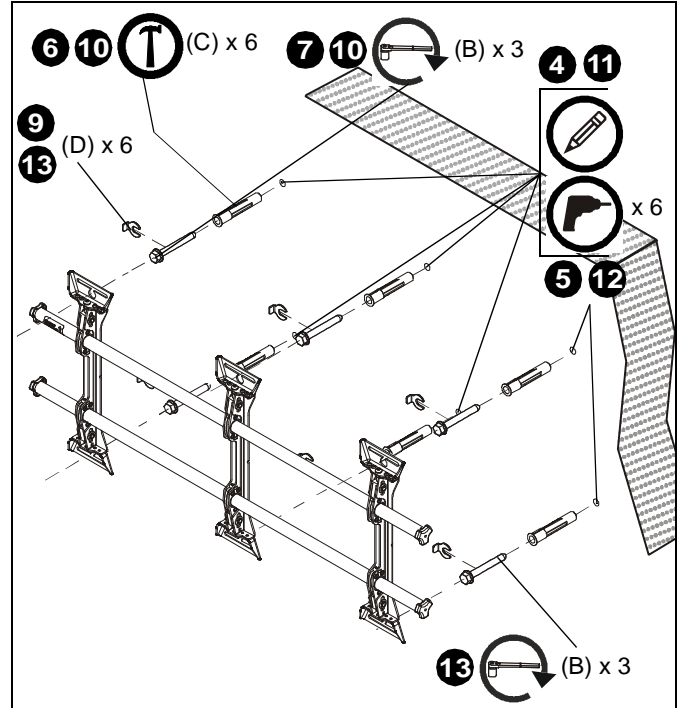

Figure 6
2. Line up the notches on mount with center of screen marking to determine vertical center. (See Figure 6)
3. Measure up 8" (203.2mm) from the center point to mark location of the upper mounting slots. (See Figure 6)
4. Using a level, mark the wall through both upper mounting slots. (See Figure 6)
5. Drill one 3/8" x 3-1/2" (9.5mm x 88.9mm) pilot hole at each marking. (See Figure 6)
6. Install an anchor (C) into each pilot hole using a hammer, making sure that the anchor is flush with the wall. (See Figure 6)
7. Partially install three 5/16 x 2-1/2" flanged lag bolts (B) into pilot holes but do not tighten to wall. (See Figure 6)
9. Place one slotted washer (D) over each flanged lag bolt. (See Figure 6)
11. Mark the attachment points for the lower mounting slots, making sure the attachment points are located on the studs. (See Figure 6)
12. Drill 3/8" x 3-1/2" (9.5mm x 88.9mm) pilot holes at markings for lower mounting holes. (See Figure 6)
13. Use three 5/16 x 2-1/2" flanged lag bolts (B) and two 5/16" slotted washers (D) to attach the mount to the wall through the lower mounting holes. (See Figure 6)